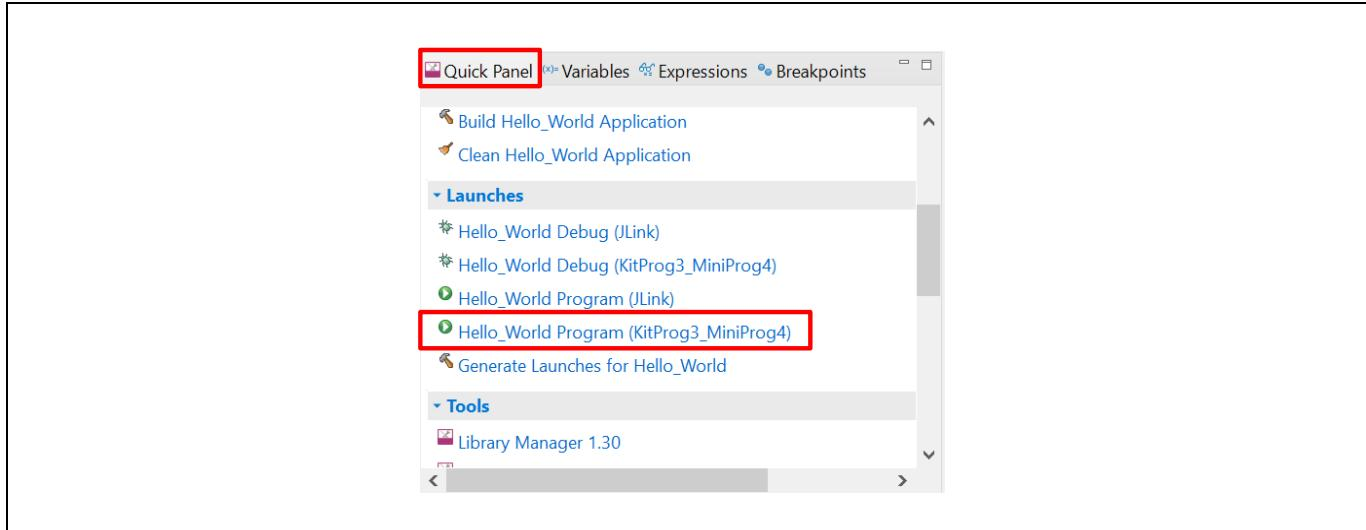

Figure 14 Programming in ModusToolbox™ software
- To build and program a PSoC™ 6 MCU application, in the Project Explorer, select <App_Name> project. In the Quick Panel, scroll to the Launches section and click the <App_Name> Program (KitProg3_MiniProg4) configuration as shown in Figure 14.